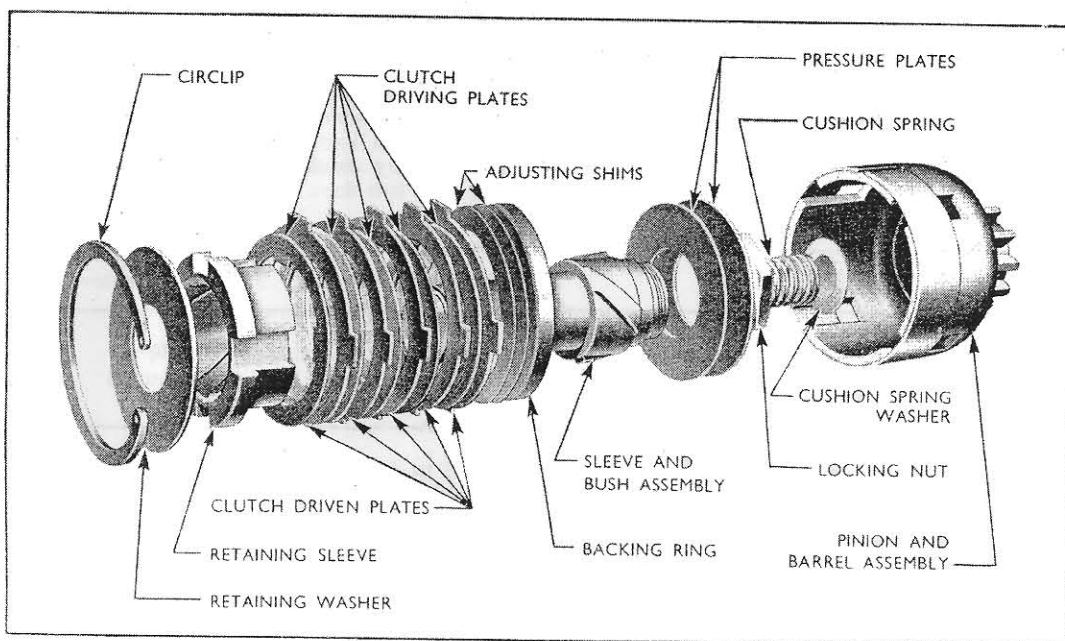

Fig. 1. Exploded View Pinion and Clutch Assembly
The clutch slipping torque is adjustable by means of shims interposed between the backing ring and the clutch plates (see Fig. 1), and after the clutch and pinion assembly has been overhauled, the slipping torque has to be re-set as detailed in subsequent paragraphs.
2. Replace the clutch plates on the retaining sleeve and refit this assembly with the adjusting shims and backing ring onto the sleeve and bush assembly. Care should be taken to ensure that the clutch plates are in the correct order (see Fig. 1) and that the ground face on the backing ring is adjacent to the adjusting shims. The clutch plates and helices on the inside of the retaining sleeve should be smeared with a thin coating of high melting point grease before assembly.